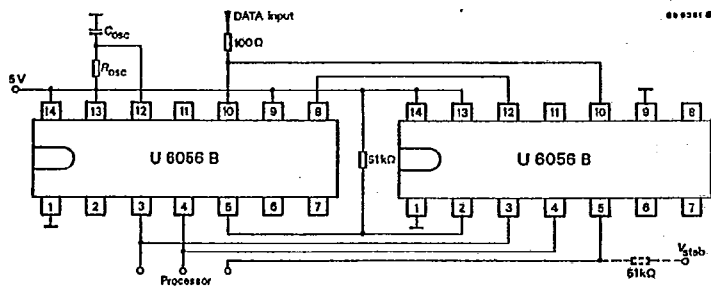

Fig. 16
- CLK and P/S are parallel-connected in each case. $DOUT_{MASTER}$ and DIN_{SLAVE} are connected with each other. The 16-bit data word can be read out serially via $DOUT_{SLAVE}$ in one operation. Fig. 16.